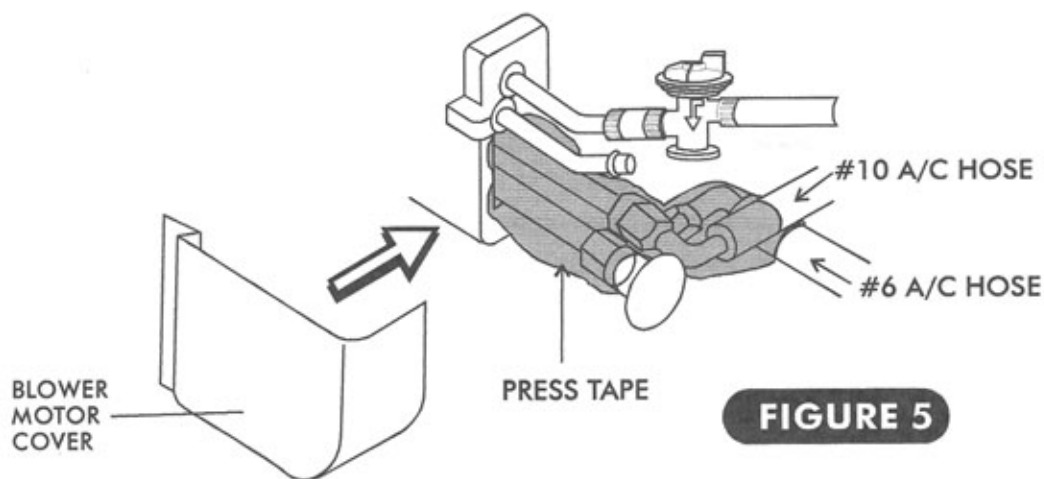

FIGURE 5
10. INSTALL AND TIGHTEN EVAPORATOR FITTINGS WITH REFRIGERATION HOSES ATTACHED TO THE EVAPORATOR. PLACE THE EVAPORATOR ON A WORK BENCH AND TIGHTEN EACH CONNECTION WITH TWO WRENCHES, ONE ON THE FITTING AND ONE ON THE COUNTERPART FITTING ATTACHED TO THE EVAPORATOR. REINSTALL EVAPORATOR BLOWER MOTOR COVER AT THIS TIME. SEE FIGURE 5.